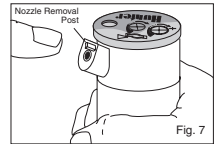

Fig. 7
- Slip the desired nozzle into the nozzle socket (Fig. 7). Note that the socket is angled up 25°. The "ears" should be adjusted so that the nozzle range screw threads directly down between them. Then tighten the nozzle range screw. The raised bump with an arrow on the rubber cover will always indicate the location of the nozzle and direction of water flow when the sprinkler is retracted.